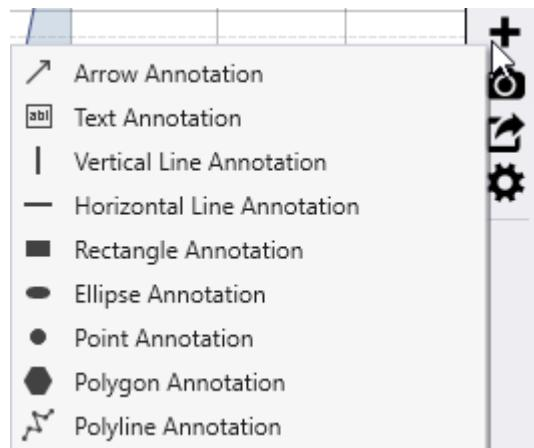

Figure 4.38: Available plot annotations.
- **Add Annotations** to the plot to provide additional information not included in a plot series. You can choose from the following annotation types: arrow, text, vertical line, horizontal line, rectangle, ellipse, point, polygon, and polyline (Figure 4.38). Note: Legends cannot be annotated, and you cannot use annotations with the tracker.